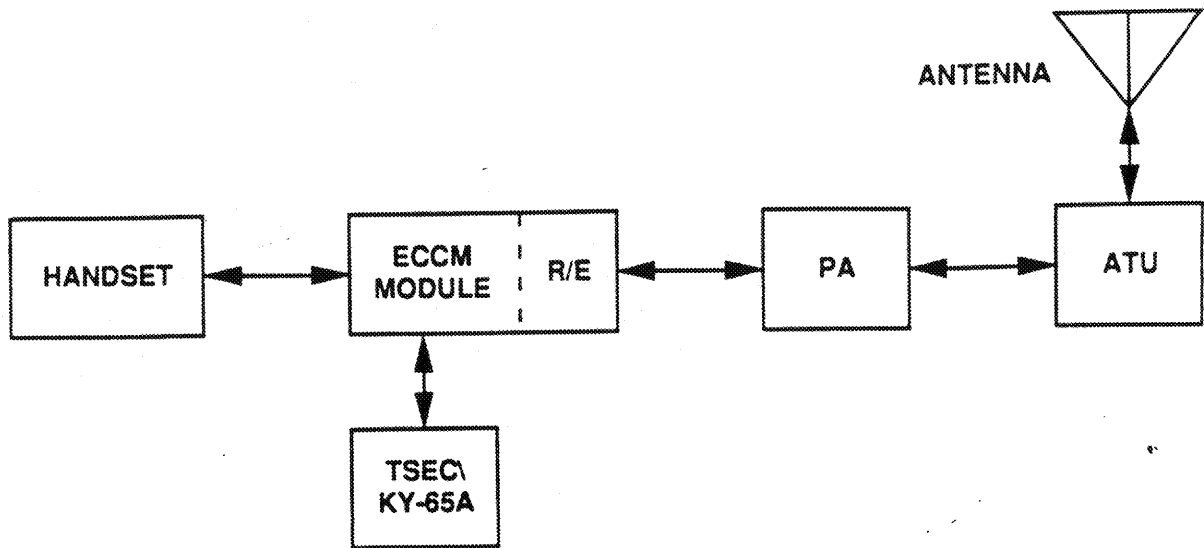

Figure 4-3. Voice Signal Flow
a. When a HF signal is received on the Team Terminal antenna, the signal passes through the ATU to the PA. The PA filters the HF signal, and applies it to the R/E (Figure 4-3). Within the R/E, the signal is filtered again and demodulated. The audio baseband output is routed through the ECCM to the KY-65A, which converts secure voice to non-secure voice. The resulting non-secure voice is routed back through the ECCM and applied to the handset. Secure voice transmission uses a signal flow that is the reverse of secure voice reception with the exception that the R/E and PA amplify and filter the RF output.